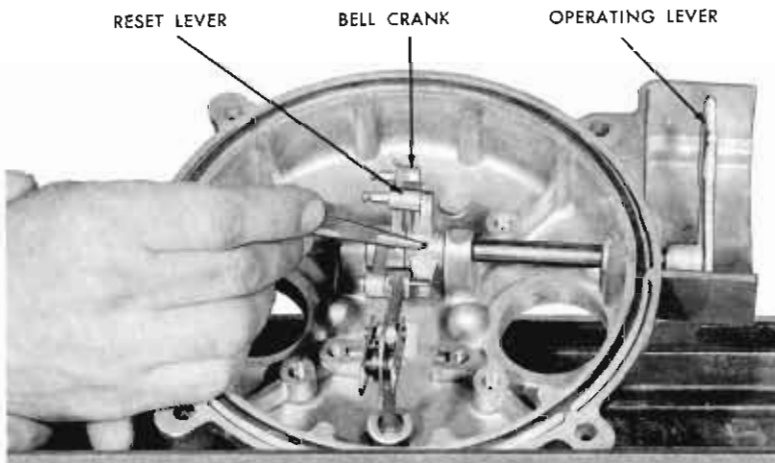

FIGURE 9
4. Drive out roll pin, pointed out in figure 9, to release operating lever.